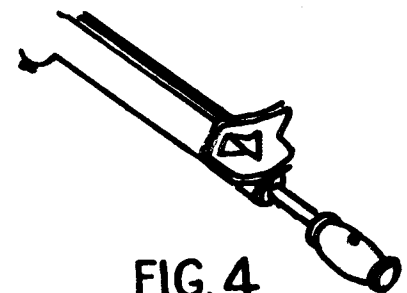

FIG. 4
13. **PREVENT CYLINDER DISTORTION**—Cylinder distortion is often caused by unequal tightening of cylinder head stud nuts or cap screws. Always use an indicating **TORQUE WRENCH**, (Fig. 4) and tighten stud nuts or cap screws to recommended tensions.